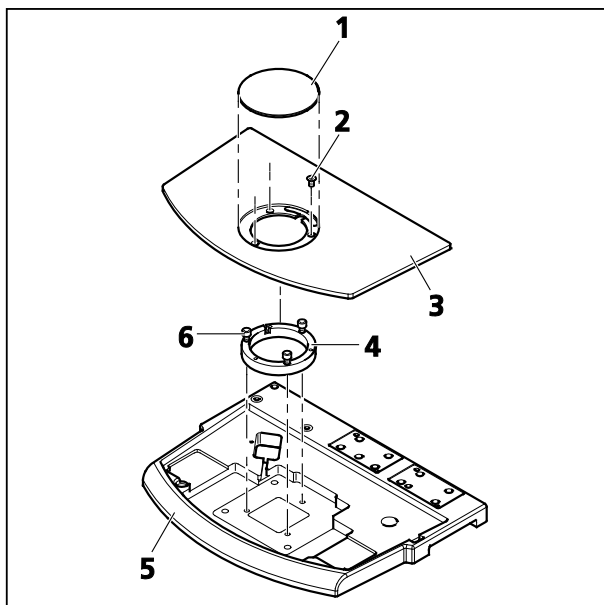

Fig. 5 Mounting the adapter ring
- If necessary, remove the metal plate (Fig. 5/1) from insert plate (Fig. 5/3) by pressing and tilting the rear edge.
If stand base 450 (Fig. 5/5) is not provided with an adapter ring (Fig. 5/4) this must be mounted first:
- Remove the insert plate (Fig. 5/3). To do this, remove the three screws (Fig. 5/2) and keep them for possible later use.
- Insert the adapter ring (Fig. 5/4) into the stand base 450 and secure with the three captive screws (Fig. 5/6).
- Detach the insert plate (Fig. 5/3) from the stand base 450 (Fig. 5/5).